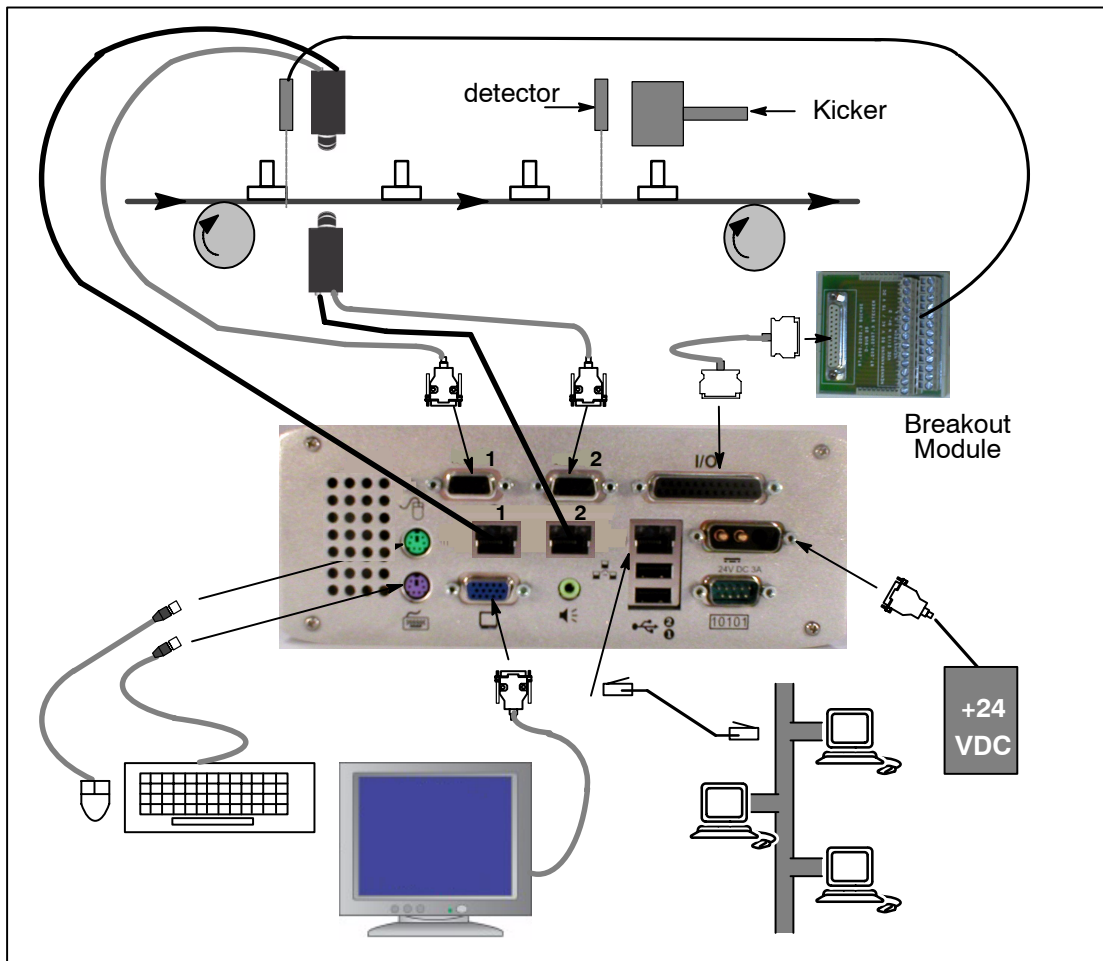

Figure 1. VA61 Installation
Figure 1 illustrates the physical components associated with a typical VA61 installation. Information on connector pinouts and electrical characteristics can be found in this Chapter, or in Appendix A starting on page 23.
- The camera can be triggered through the VA61 I/O. The external trigger would be input at the 25-pin Industrial I/O connector, and output to the cameras through the DB15 connectors, as Camera IN2, illustrated in Figure 1 on page 7.